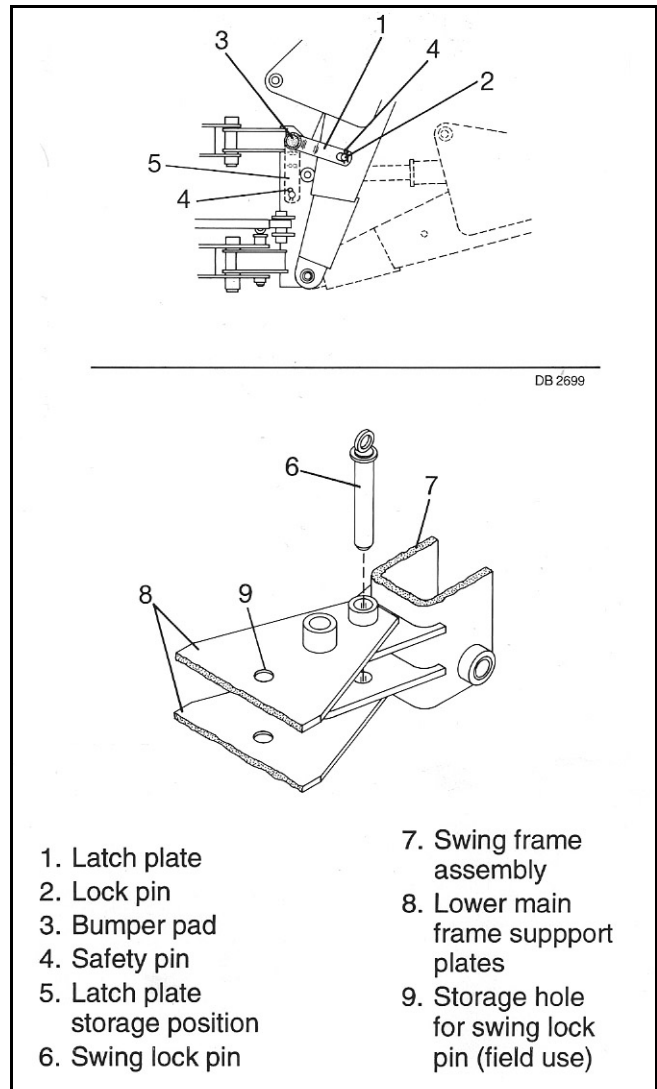

Figure 10. Transport and Swing Lock Installed
Engage transport lock by fully retracting boom and dipper. Position transport latch plate (1), located on right side of swing frame, over transport lock pin (2). Secure with safety pin (4). See Figure 10.